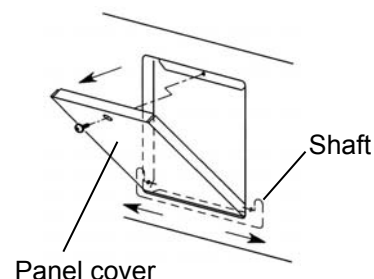

Fig. 1
2. Unscrew the screw fixing the panel cover at the space for automatic temperature recorder and open the panel cover. [Fig. 1]